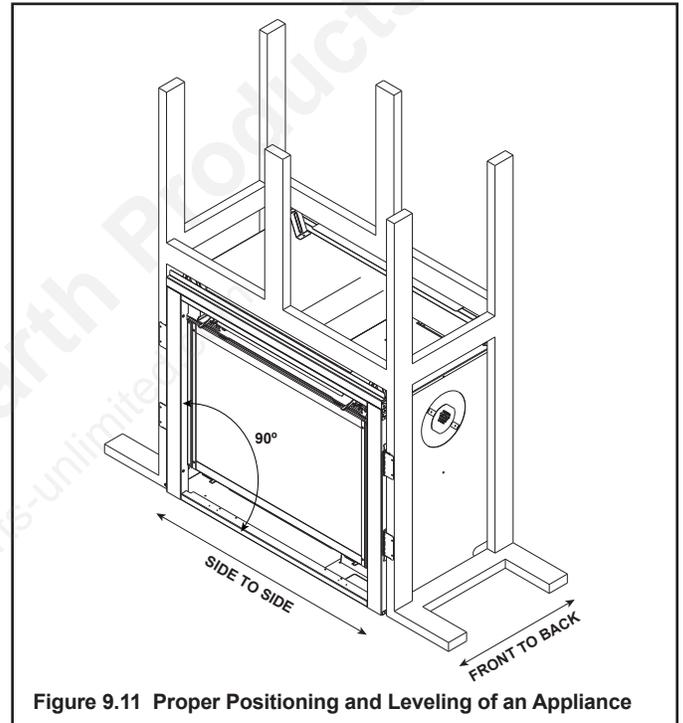

Figure 9.11 Proper Positioning and Leveling of an Appliance
7. Using a framing square, make sure that the sides of the appliance are square to the bottom as shown in Figure 9.11.